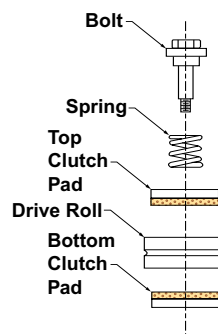

Figure 3
7. As shown in Figure 3, install the bottom clutch pad, the drive roll, the top clutch pad, and the spring & bolt to the feeder's drive shaft. **DO NOT OVERTIGHTEN THE BOLT.** Only snug it to secure the assembly. The proper tension is preset for the wire size and does not need adjustment. Make sure that the clutch material faces the drive roll.